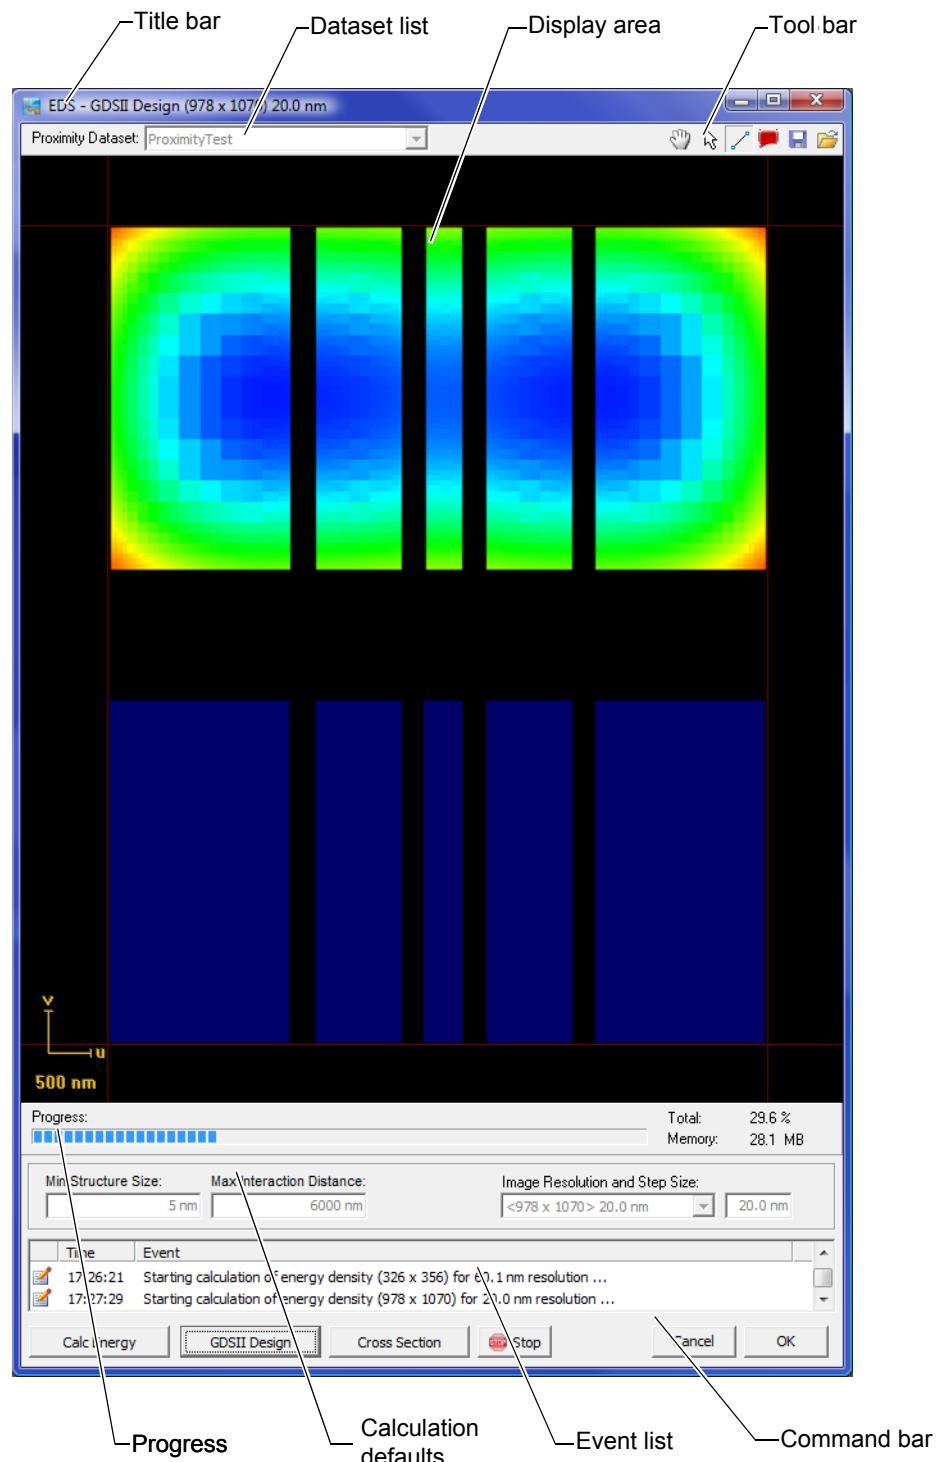

Figure 6-42: EDS - GDSII Design subdialog
(⇒ Figure 6-42 on page 6-82) .
- **EDS- GDSII Design** subdialog (⇒ Figure 6-42 on page 6-82) or